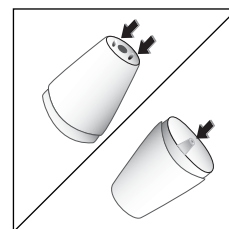

fig. 19
3. Make sure the three holes in the milk frother shown in fig. 19 are not blocked. If necessary, clean with a pin.